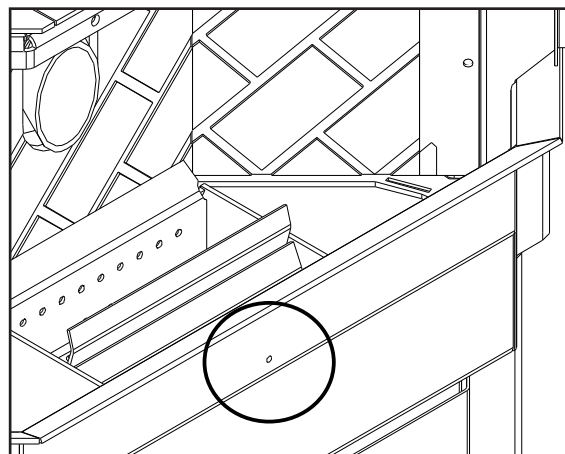

Figure 7: Hole for Pressure test with Magnehelic Gauge.
Taking a reading of vacuum pressure inside the firebox with a magnehelic gauge can be used to set the slider for best combustion. The slider damper should be set only on a hot stove (operating for thirty (30) minutes or more) by placing a Magnahelic Pressure Gauge in the firebox. The reading can be taken from the 1/8" (3 mm) hole located in the front of the firebox under the door (see Figure 7). **The best settings are a reading of approximately 0.13 inches of water column on the high fire setting. Some fuels may require higher or lower settings.**